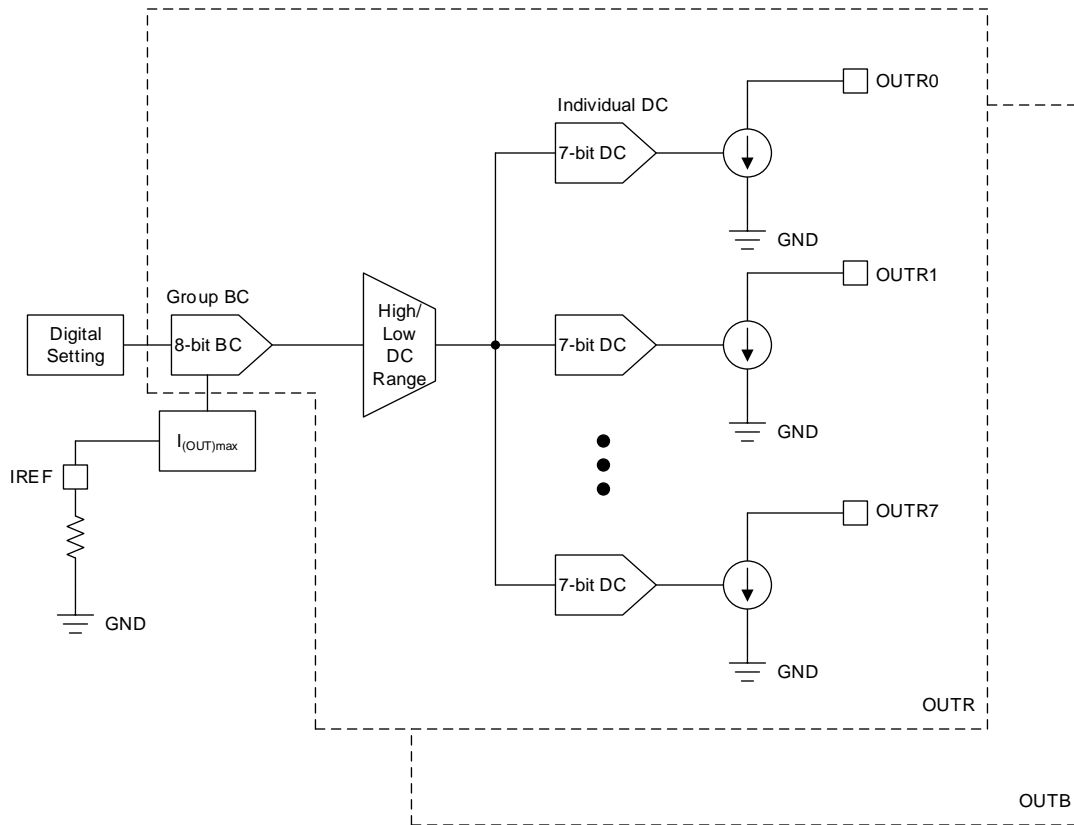

Figure 21. Brightness Control and Dot Correction Block Diagram
The TLC6C5716-Q1 device implements an 8-bit group brightness control (BC) and 7-bit individual dot correction (DC) to calibrate the output current. The 16 output channels are divided into two groups: OUTRn and OUTBn. Each group contains 8 output channels. There are two configurable ranges for the DC value of each group. One is the low DC range with output current from 0 to 66.7% $I_{(OUT)max}$, the other is the high DC range with output current from 33.3% $I_{(OUT)max}$ to 100% $I_{(OUT)max}$. The IREF resistor, BC, DC, and DC range together determine the channel output current, as shown in Figure 21. Equation 2 and Equation 3 are the detailed output current calculation formulas.